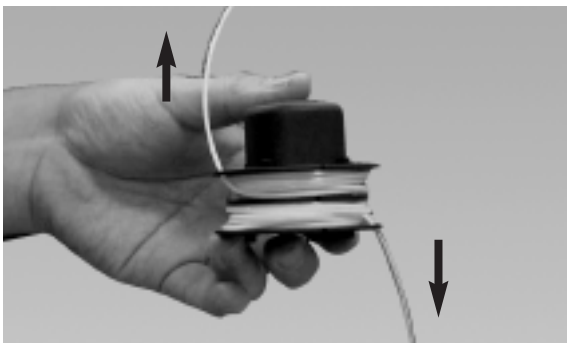
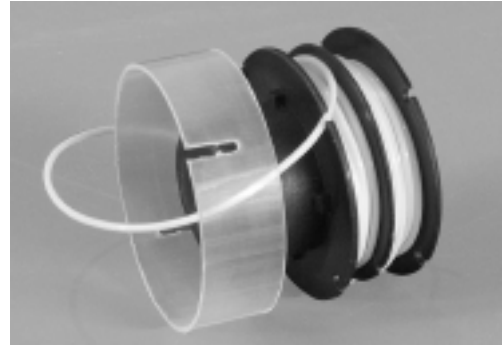
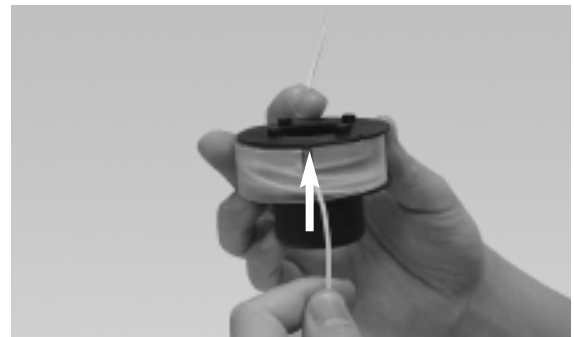
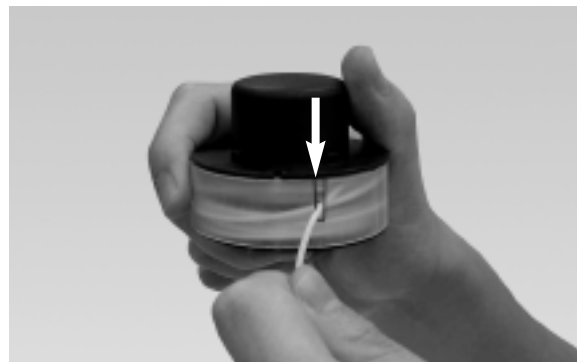

Fig. 22
Fig. 23
Fig. 24
Fig. 25
6. Lock the ends of the line in opposite slots on the spool (Fig. 22). Place the clear plastic line retainer back over the line and spool (Fig. 23). Pull the lower line up into the lower slot in the clear plastic line retainer (Fig. 24). Pull the upper line down into the upper slot (Fig. 25).